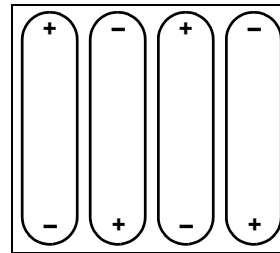

Figure 16 Battery orientation
- 4** Replace the batteries, with polarities oriented as shown in Figure 16.
The charger has detected a fault condition. Turn the tester OFF, and then disconnect the external power adapter. Verify that the batteries installed in your tester are NiMH batteries, and that they are installed in the proper orientation (see Figure 16 on page 94). Always use JDSU recommended batteries in your tester.